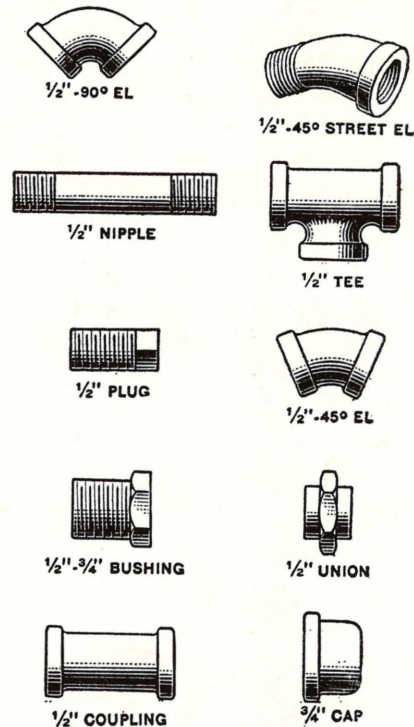
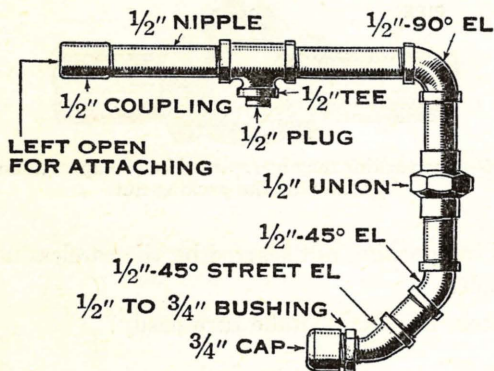

Fig. 364—Threaded Iron Pipe Fittings
Fig. 370—A pipe line employing the standard pipe fittings
- Assemble these fittings shown in Fig. 364, in the form shown in Fig. 370. Use the stilson wrench to tighten each one, although the unions, plugs and bushings may be tightened with the monkey wrench. In plumbing the fittings are made very tight, but here they should be tightened slightly. This is because they have to be taken apart again. In plumbing practice, the threads are painted with white lead or paint or a special material, to seal the joints and make them water tight. This need not be done in the classroom.